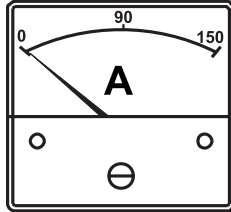

Figure 51. Ammeter (No Load)
8. The **AC ammeter gauge** (Figure 51) will indicate **zero amps** with no load applied. When a load is applied, the ammeter will indicate the amount of current that the load is drawing from the generator.